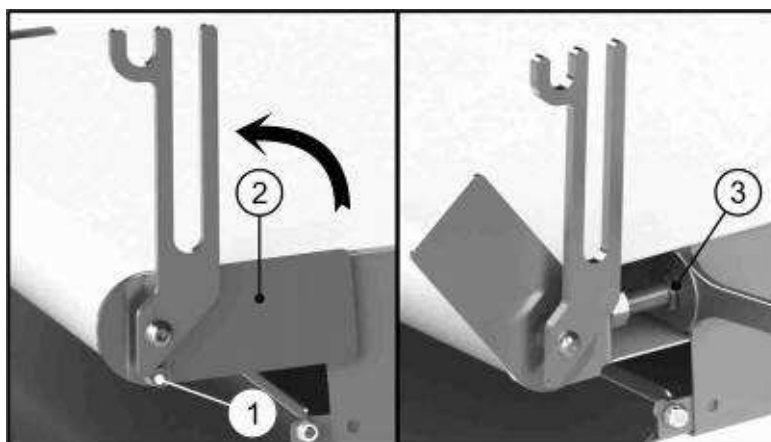

Figure 11
Should the belts slip around the pulling roll or not be correctly aligned, it will be necessary to stretch them. Remove the screws ref. 1 Figure 11 (on both sides) and rotate the belt side guard ref. 2 so as to access the tensioning screw. Use nut ref. 3 to adjust belt tension and then put back the two side protections ref. 2 using the screws ref. 1.